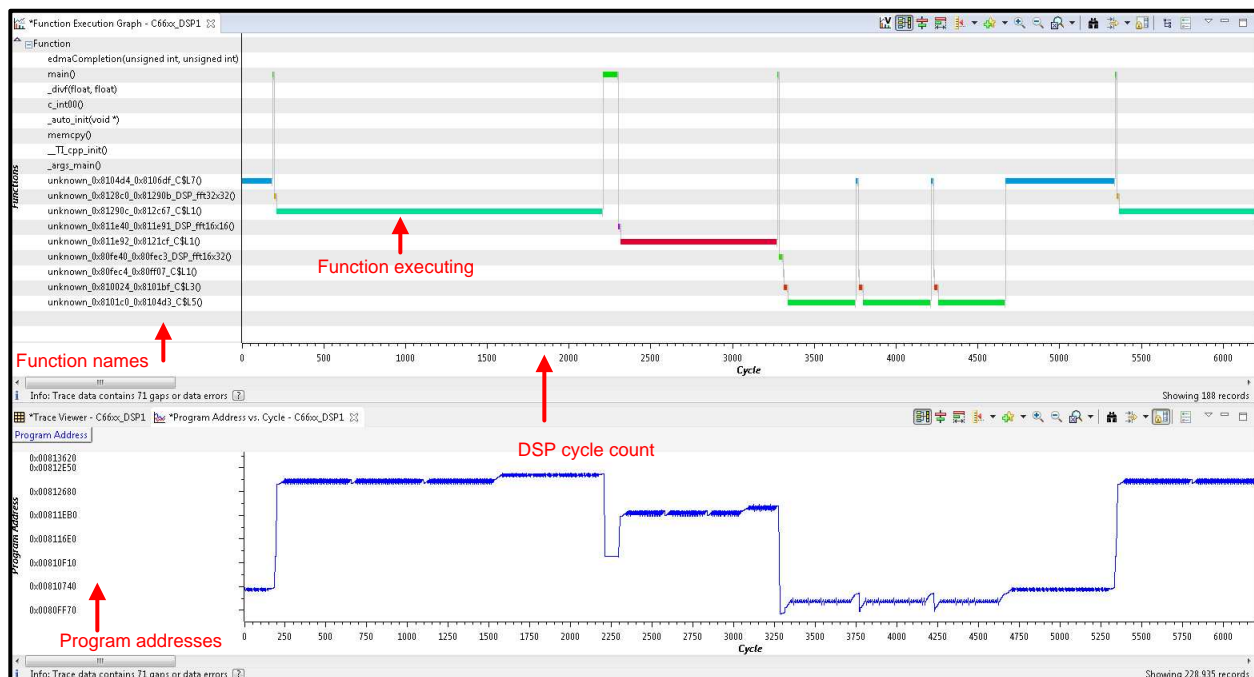

Figure 29. Function Execution Graph and Program Address vs Cycle Graphical C66x DSP Trace Representation
CCS can then reconstruct the complete instruction flow from these waypoints to create a graphical representation of the code flow in Figure 29. Additional analysis can then be performed by looking at the Function Profiler: Summary window, which gives details on the number of cycles spent in every function (inclusive and exclusive).
- To analyze the trace output graphically, click on the Analyze button in the Trace Viewer window. An example of the Function Execution Graph and the Program Address vs. Cycle is shown in Figure 29.